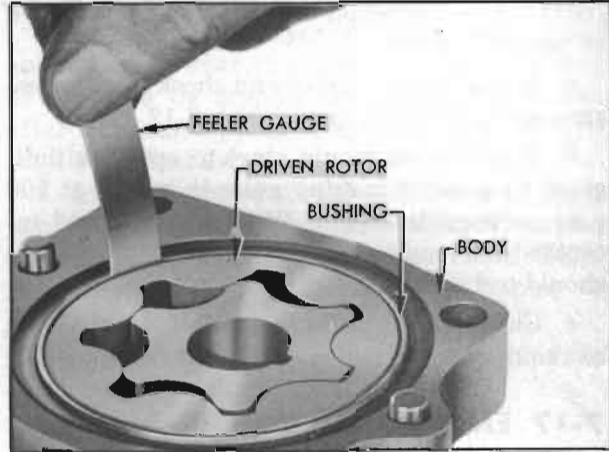

Figure 7-47—Checking Clearance Between Driven Rotor and Bushing
5. Check clearance between driven rotor and bushing in pump body. See figure 7-47. Replace the body if clearance exceeds .006".